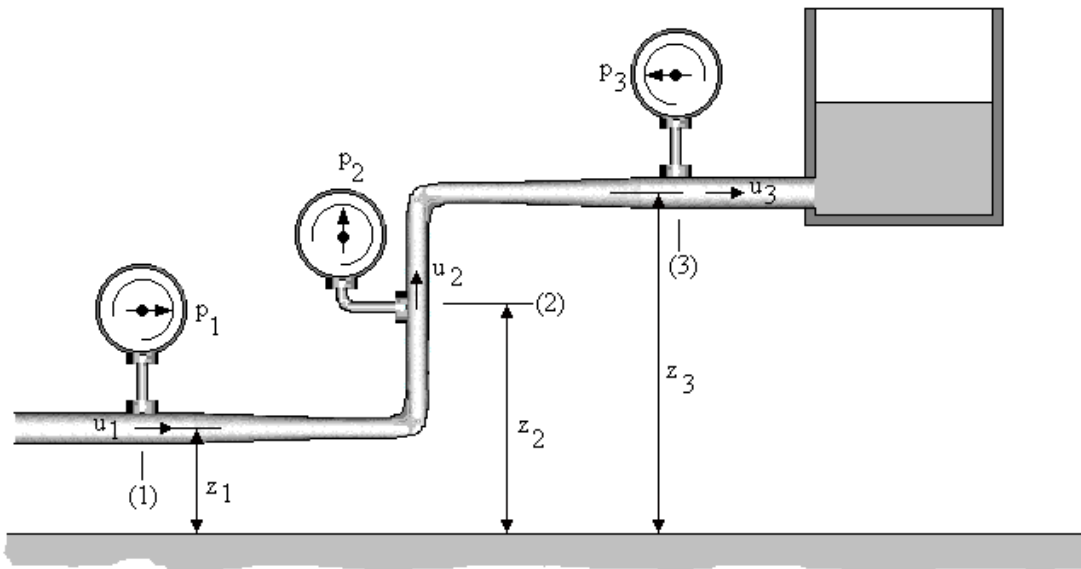

Fig.1
When a fluid flows at a constant rate in a pipe or duct, the mass flow rate must be the same at all points along the length. Consider a liquid being pumped into a tank as shown (fig.1).
The total energy E_T at (1) and (2) on the diagram (fig.1) must be equal so :